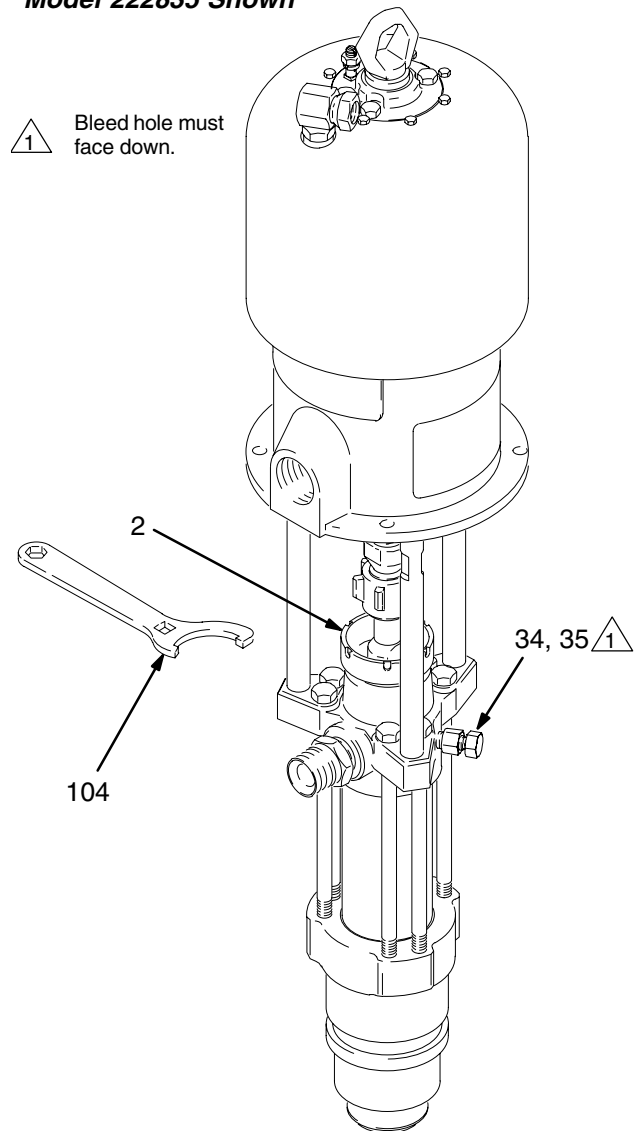

Fig. 5
Fill the packing nut/wet-cup (2) 1/3 full with Graco Throat Seal Liquid (TSL) or compatible solvent. See Fig. 5. Using the supplied wrench (104), adjust the packing nut weekly so it is just snug; do not overtighten. Follow the **Pressure Relief Procedure** above before adjusting the packing nut.
If the pump fails to prime properly, open the bleeder valve plug (35) slightly. Use the bleed hole, on the underside of the valve body (34), as a priming valve until the fluid appears at the hole. See Fig. 5. Close the plug (35).